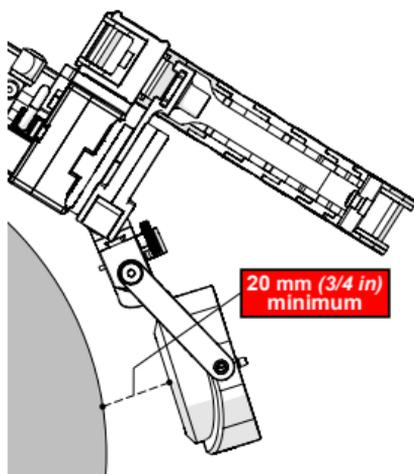

Fig. 134 - Raster arm pivot nose
7. Lower the probe holder to a minimum of 20 mm ( $\frac{3}{4}$  in) above the scan surface (Fig. 134), and lock the raster arm pivot nose at this position.